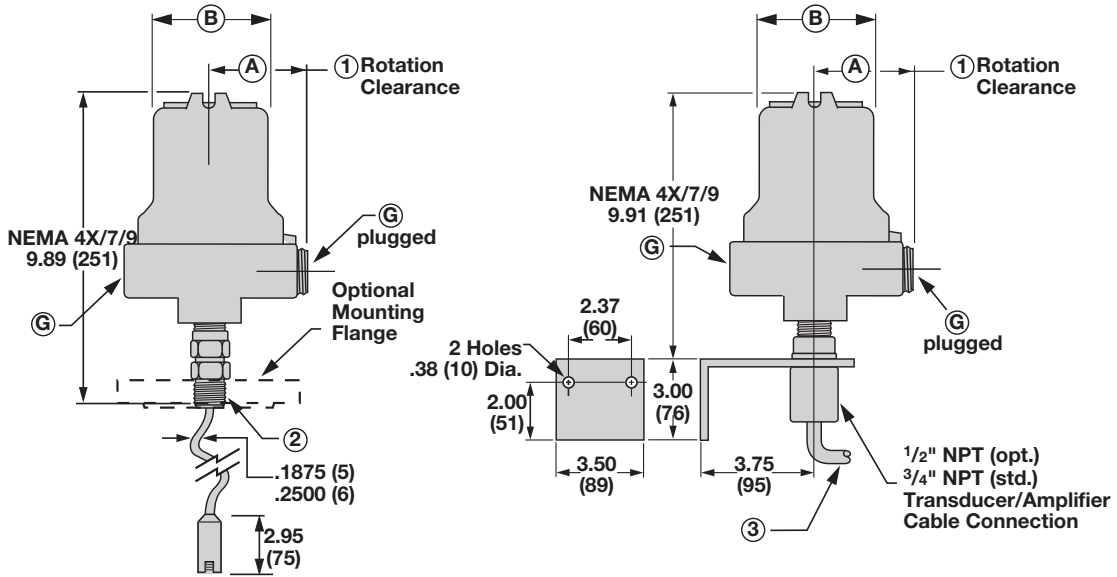
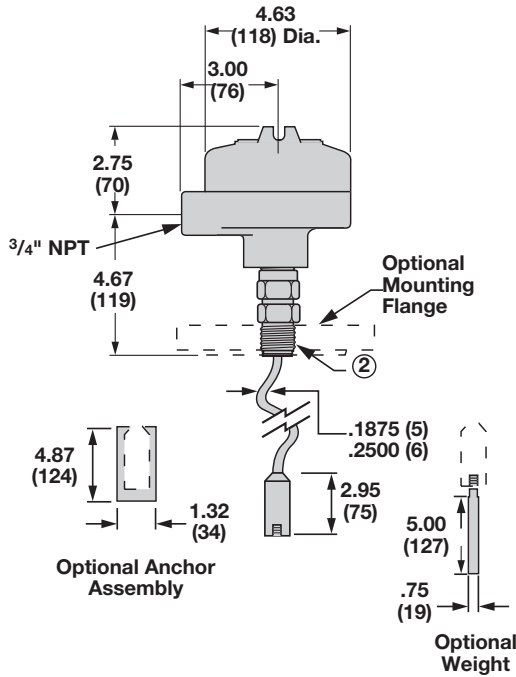

Figure 10
Figure 12
7. The red LED will be on. Turn the zero potentiometer fully counterclockwise. Refer to Figure 10 on page 19.
8. Move the probe range jumper (switch) to the low level position. Refer to Figure 12 on page 20. The LED will turn off. If not, turn the span potentiometer slowly counterclockwise until the LED turns off. Refer to Figure 10 on page 19.